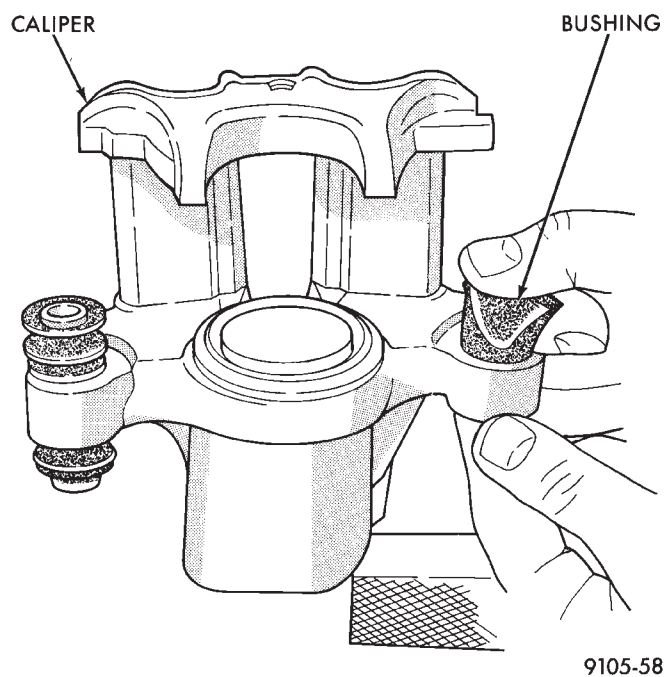

Fig. 4 Removing Bushings From Caliper
(2) Using your fingers collapse one side of the bushing. Then pull on the opposite side to remove the bushing from the brake caliper assembly (Fig. 4).